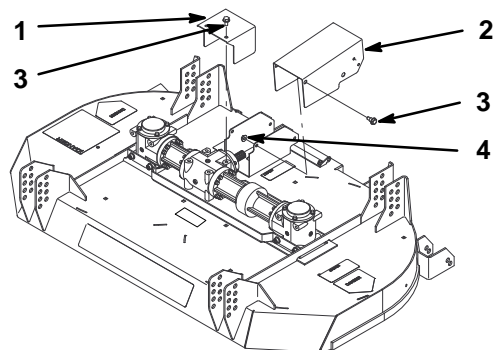

Figure 2
2. Remove footrest and two shields that cover gearbox and PTO shaft (Fig. 2).